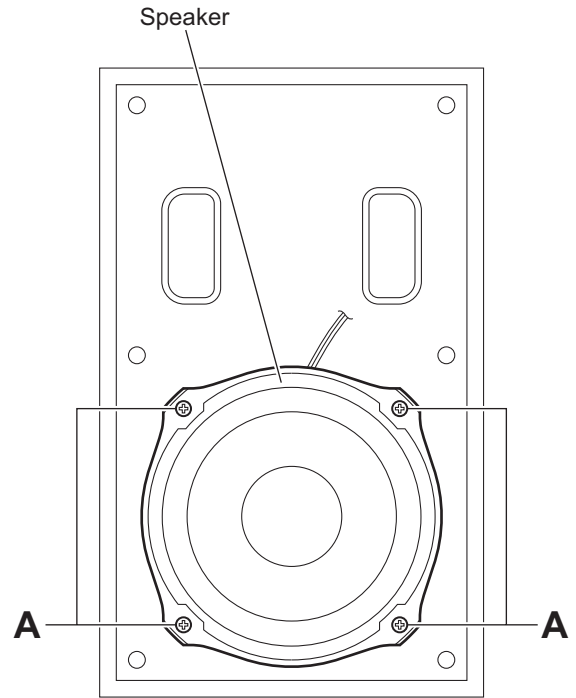

Fig.5
3.5.3 Removing the speaker (See Figs.5 and 6)
- From the front side of the speaker main body, remove the four screws **A** attaching the speaker. (See Fig.5.)